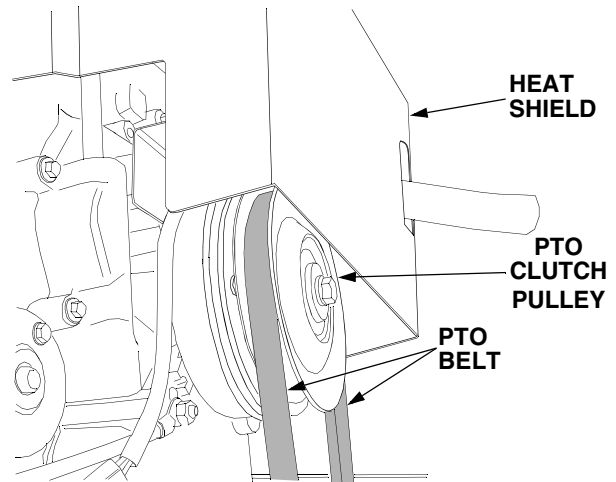

Figure 40
4. From beneath the front of the tractor, lift the two sides of the belt up and maneuver the PTO belt over and off the front of the PTO clutch pulley on the front of the engine. Lower the belt down between the front of the PTO pulley and the engine heat shield (See Figure 40).